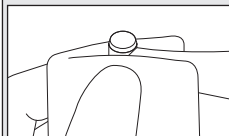
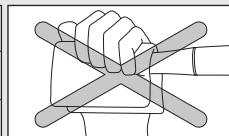

Fig. 16
Fig. 17
- If you wish to purge excessive oil from inside the handpiece, rotate the handpiece for approx 15 seconds without a bur. During the rotation, do not depress the push button, especially when using absorbent cloth to prevent oil from scattering. Depressing the push button during rotation may damage the chuck mechanism (Fig.16, Fig.17).